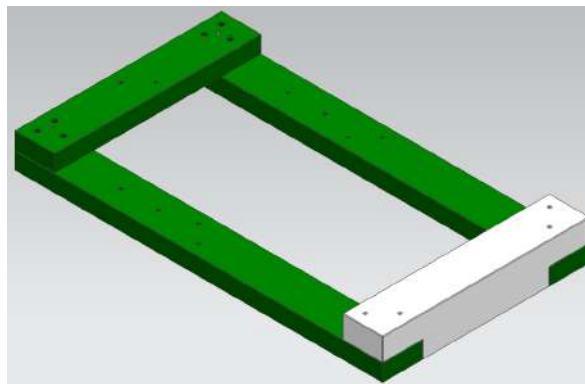

Figure 3. Rectangular base is constructed
2. **Base Frame:** Once all cuts have been made begin to lay the components out as shown in figure 3.
The white component in figure 3 is part number 8 from the parts list. This part requires additional cutting to fit into the rest of the assembly. Using a band saw or handsaw, remove a 3.5" x 3.5" x 1.5" section from both ends of the 4x4. This is demonstrated in figure 4.